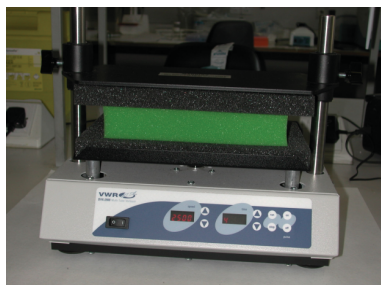

Figure 3
3. Lower the top plate onto the foam rack and tighten screws on both sides (Figure 3)